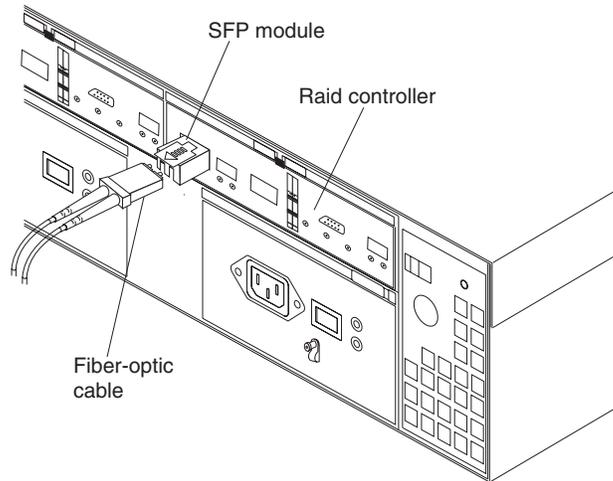

Figure 60. Location of SFPs and fiber-optic cables
3. From the RAID controller that has failed, remove the fibre-channel cables from the SFPs. The location of these components is shown in Figure 60 on page 75.